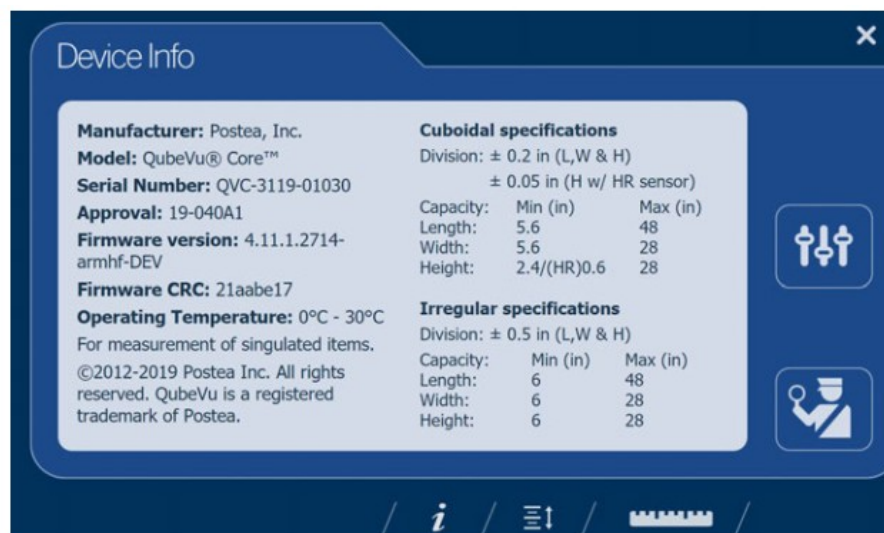

Figure 4-1. Device Information
2. The Device Info menu displays (Figure 4-1). For additional Device Info information (Section 4.2 on page 26).